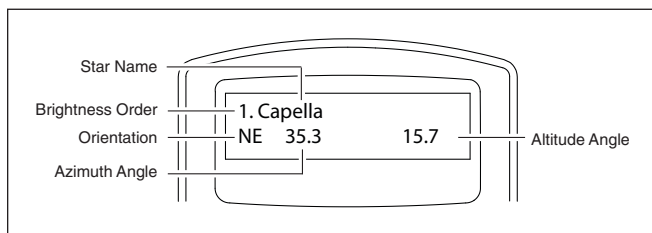

Figure 3. Alignment star information displayed on LCD.
4. Now, use the Scroll keys to scroll through the list of bright stars. There will only be a few stars, at most, on the list, and sometimes only one star will be on the list. The hand controller will display the name of the star on the first line, and the approximate position of the star (based on the time and date entered during the initial setup) on the second line (**Figure 3**). The first coordinate on the second line is an E-W coordinate (azimuth angle), and the second coordinate indicates degrees above the horizon. These coordinates provide a simple way to identify the bright star you have chosen. When you are confident the hand controller is displaying the name of the bright star you wish to align on, press ENTER.